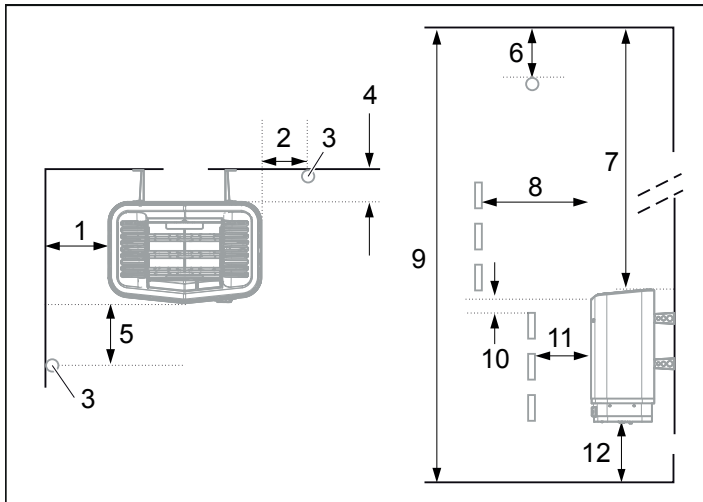
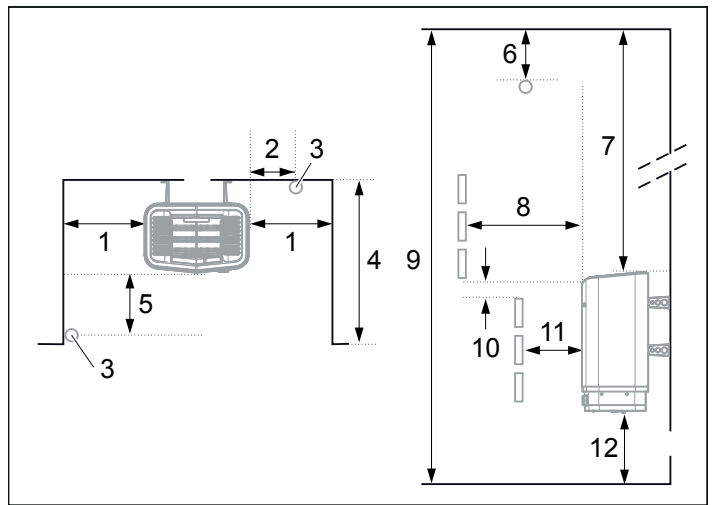

Figure 3: Positioning the heater - normal installation
Figure 5: Positioning the heater - recess installation
- Plan the sensor positioning (see Figure 3 and Figure 5).
- on the same wall as the door (or the side wall if very close to the door wall). The heater may also be placed in a recess (see Figure 5).
- Position the heater at a safe distance from the floor, side walls and interior fittings (see Figure 3).
Position the sensor according to the picture (see Figure 3).
- 1. Position the heater at a safe distance from the floor, side walls and interior fittings (see Figure 5).
- 2. Position the sensor according to the picture (see Figure 5).